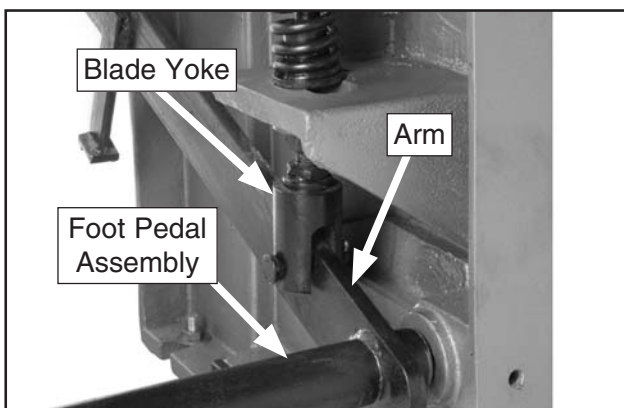

Figure 2. Foot pedal assembly.
1. Attach the blade yokes to the arms of the foot pedal with the M14-2 x 50 bolts, washers and nuts, and tighten in position (**Figure 2**).